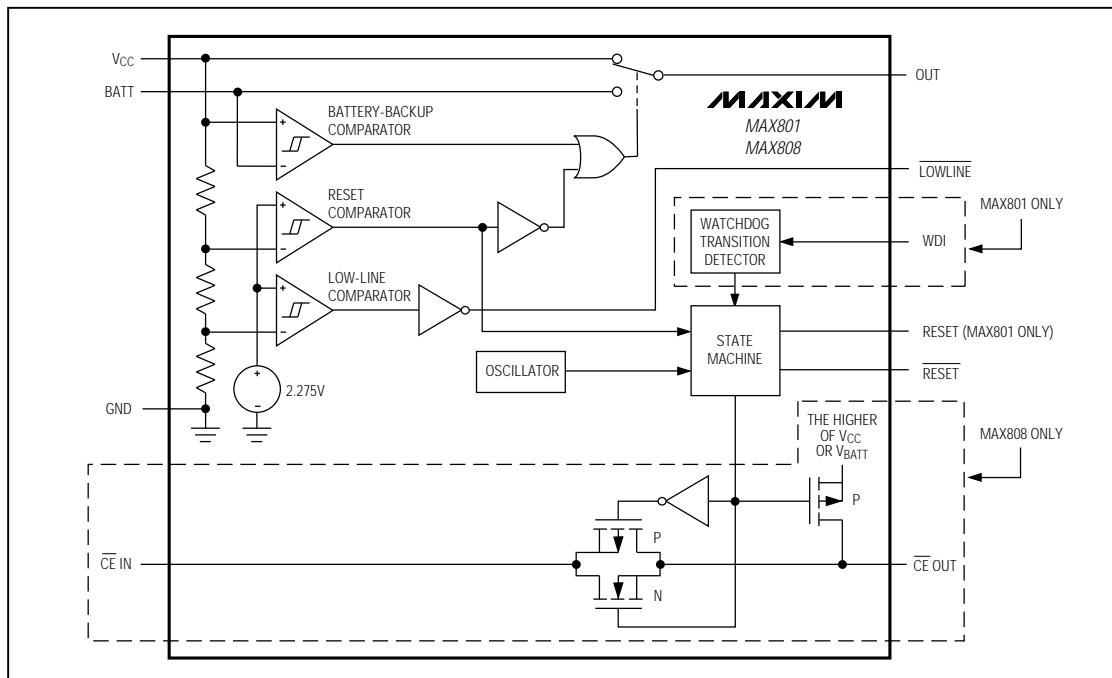

Figure 1. Functional Diagram
The MAX801/MAX808 microprocessor (μ P) supervisory circuits provide power-supply monitoring and backup-battery switchover in μ P systems. The MAX801 also provides program-execution watchdog functions (Figure 1). Use of BiCMOS technology results in an improved, 1.5% reset-threshold precision while keeping supply currents typically at 68 μ A (48 μ A for the MAX808). The MAX801/MAX808 are intended for battery-powered applications that require high reset-threshold precision, allowing a wide power-supply operating range while preventing the system from operating below its specified voltage range.
The MAX808 provides internal gating of chip-enable (CE) signals to prevent erroneous data from corrupting CMOS RAM in the event of a power failure. During normal operation, the CE gate is enabled and passes all CE transitions. When reset is asserted, this path becomes disabled, preventing erroneous data from corrupting the CMOS RAM. The MAX808 uses a series transmission gate from the chip-enable input (\overline{CE} IN) to the chip-enable output (\overline{CE} OUT) (Figure 1). The 8ns max chip-enable propagation from \overline{CE} IN to \overline{CE} OUT enables the MAX808 to be used with most μ Ps.